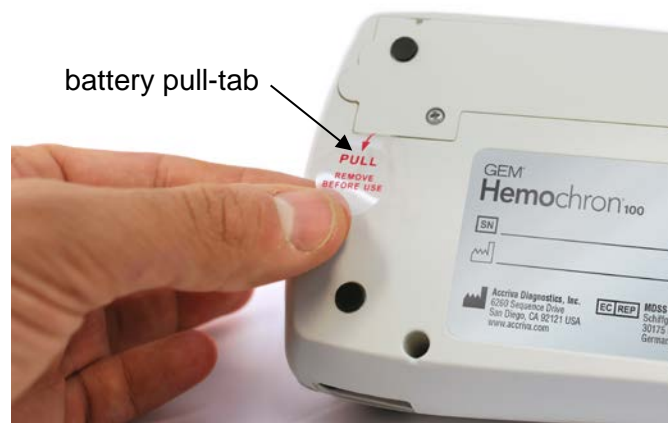

Figure 4 – Remove the battery pull-tab
- 2 Before removing the battery pull-tab from the bottom of the instrument, connect the power supply to the instrument. See Figure 4.
- 1 If a battery pull-tab is present on the bottom of the instrument, remove it. See Figure 4.